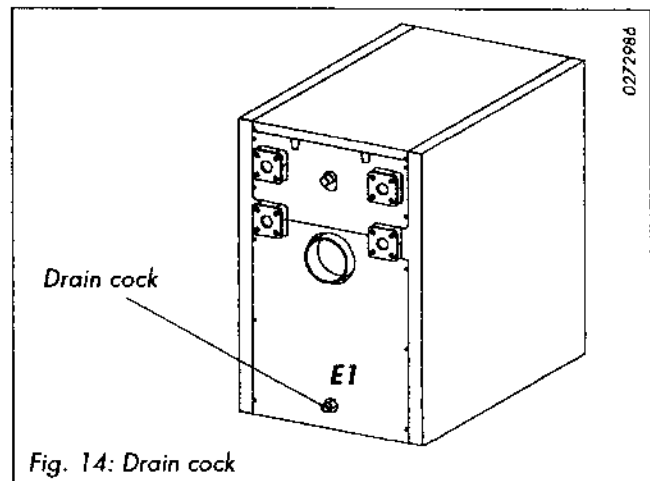

Fig. 14: Drain cock
- If out of commission when there is a risk of frost, drain the installation - drain the boiler at the drain cock E1 (Fig. 14).